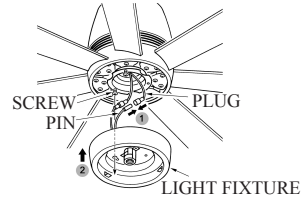

FIG.13
2. Plug in the light wires from fan and the light wires from light fixture. (see Fig.13)